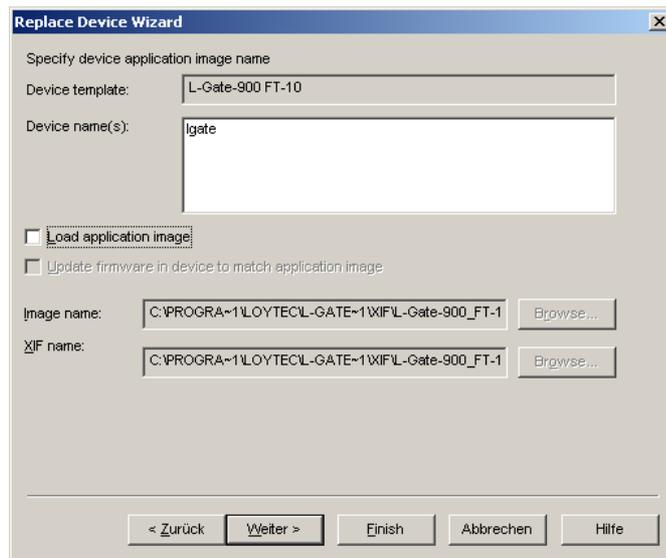

Figure 67: Click Next without loading an application image.
4. In the following window shown in Figure 67 click **Next**.